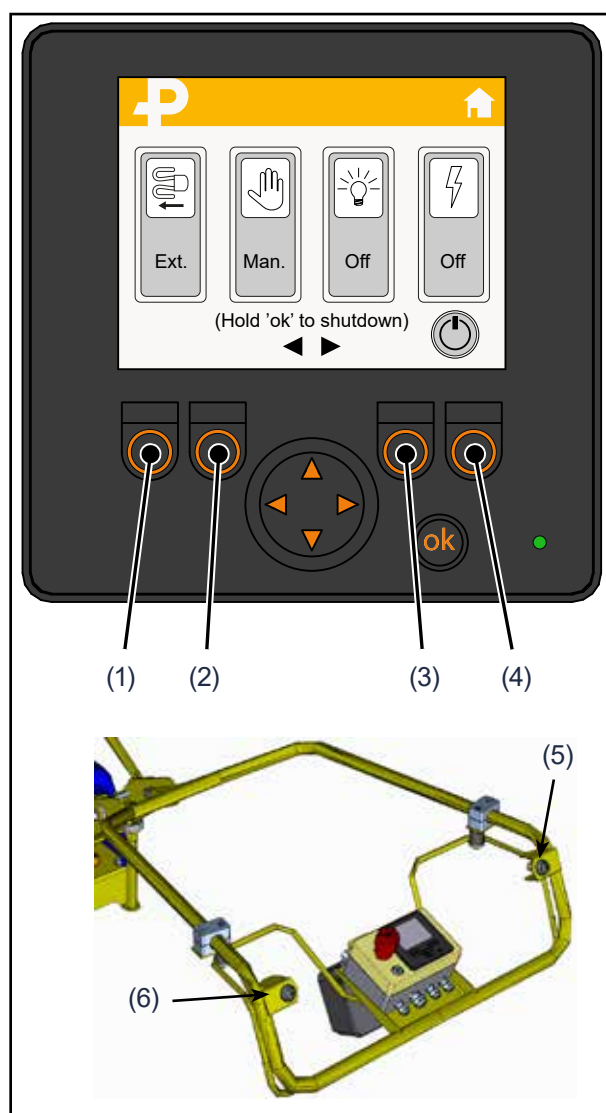

Fig 26.
5.3.1. Manual Clipping (Fig 26)
5.3.2. Manual de-clipping (Fig 26)
5.3.3. Automatic Clipping (Fig 26)
5.3.4. Automatic de-clipping (Fig 26)